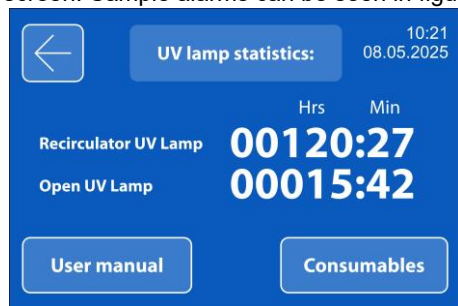

Figure 8. UV lamp statistics
8.1.4. **UV lamp statistics**. Information is available by pressing the **Statistics** button (the circled *i*, figure 4). In this separate screen (figure 8), usage is shown in hours and minutes. Two buttons below lead to screens with QR codes: **User manual** links to this manual, **Consumables** – to available consumable resources. Press the  button to return to the previous screen.